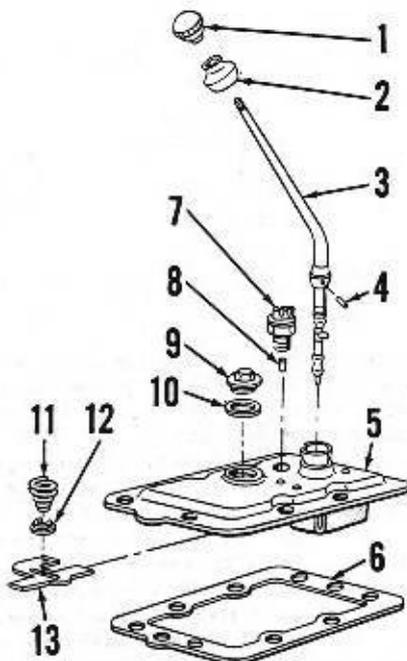

Fig. 183—Exploded view of four-speed transmission shift cover. Refer to Fig. 184 for remainder of shift mechanism.
Disconnect starter safety switch wire from switch, unbolt and remove shift lever and transmission top cover assembly (see Fig. 183) and remove the 1st-3rd shift rail detent spring (9—Fig. 184) and detent ball (10). Loosen locknut (12) and remove the 1st-3rd shifter fork lock screw (11), then re-